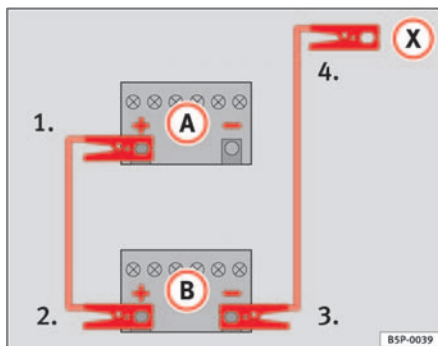

Fig. 160 How to connect the jump leads
In ⇒ fig. 160, the flat battery is **A** and the charged battery **B**.
1. Connect one end of the red jump lead to the positive ⇒ fig. 160 (+) terminal of the vehicle with the flat battery ⇒ ⚠.
4. Connect the other end of the black jump lead (X) to a solid metal component which is bolted on to the engine block, or onto the engine block itself of the vehicle with the flat battery. Do not connect it to a point near the battery ⇒ ⚠.